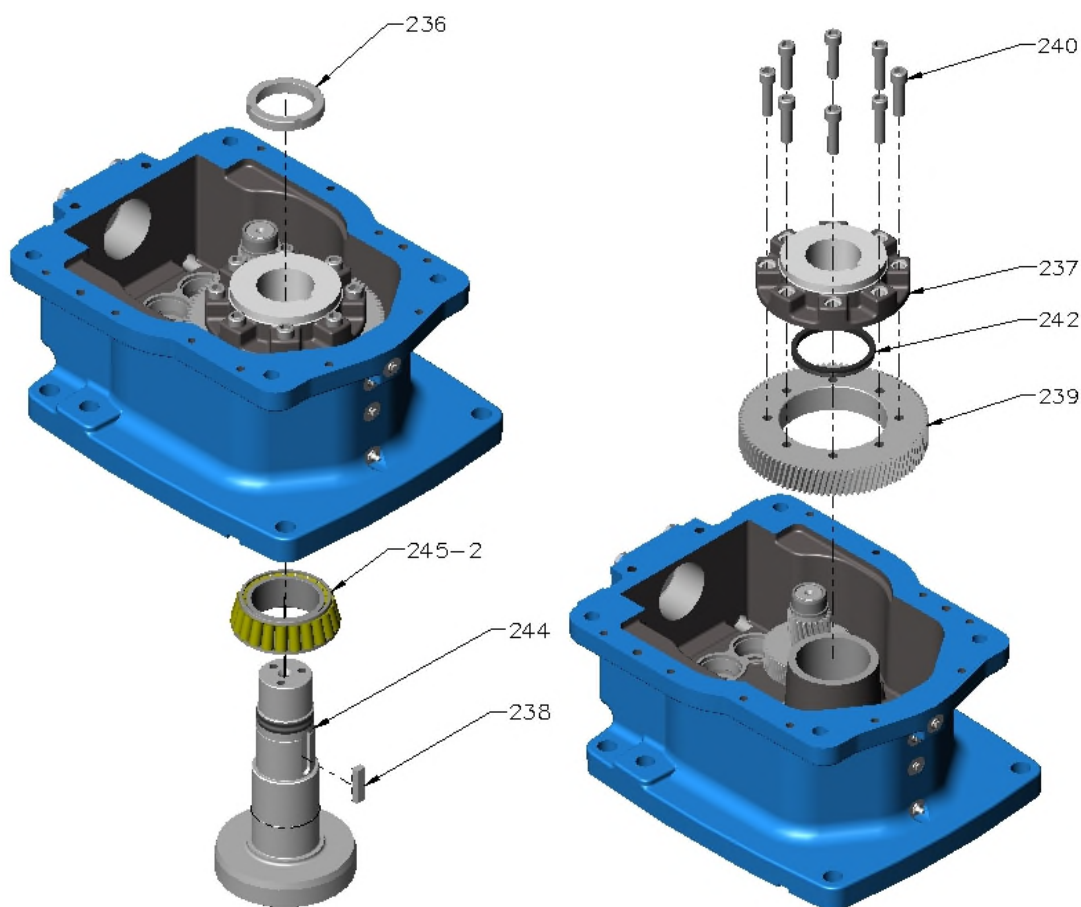

Figure 9 – Output Shaft
- L. At output shaft [244], remove following items (refer Figure 9):
- M. Output shaft [244] disassembly (refer Figure 9).
- (6) Use a bearing puller to remove bearing cone [245-2] off output shaft [244]. Or if necessary, do following steps: